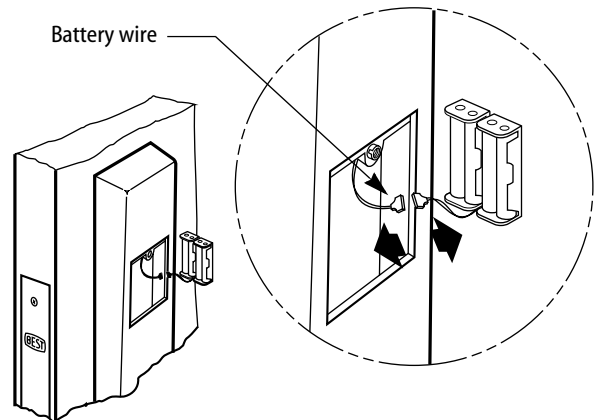

Figure 2—Disconnecting the battery
- 2 Remove the battery, if already installed, by disconnecting the battery wire. See Figure 2.